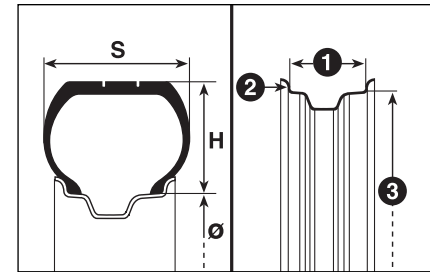

fig. 5
UNDERSTANDING TYRE MARKING fig. 5
MARKING fig. 5****Example: 6 1/2 J x 15 H2 ET43****6 1/2** = rim width in inches (1).**J** = rim drop center outline (side projection where the tyre bead rests) (2).**15** = rim nominal diameter in inches (corresponds to diameter of the tyre to be mounted) (3 = Ø).**H2** = “hump” shape and number (relief on the circumference holding the Tubeless tyre bead on the rim).**ET43** = wheel camber angle (distance between the disc/rim supporting plane and the wheel rim centre line).